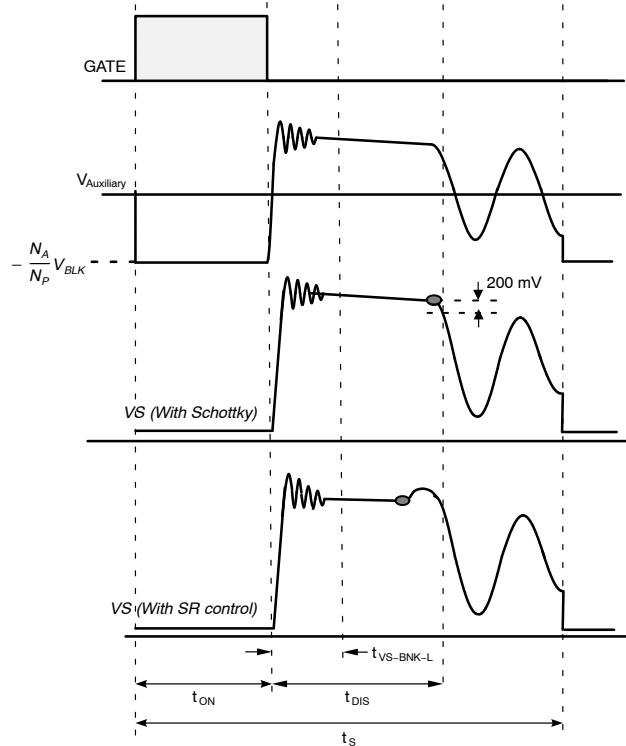

Figure 26. VS sampling with Diode or Synchronous Rectifier
VS voltage which is reflected auxiliary winding and proportional to output voltage. Therefore, It is possible to regulate output voltage by sensing VS voltage. Figure 26 shown VS sampling waveform with secondary rectifier that using Schottky diode or Synchronous Rectifier (SR).
In order to regulate output voltage in accurately range, FAN105A build-in VS sampling methodology for signal like Figure 26 showed, FAN105A samples and hold VS voltage as EAV at timing like gray point showed. Base on EAV level to regulate Pulse width to achieve estimation output voltage.
A leading edge blanking time (tVS-BNK-H/L) start from primary switch turned off, that is caused by the resonance of leakage inductance and parasitic capacitance at transformer. In order to avoid VS sampling procedure get impacted by that ringing, the oscillation should be settle before settle down before tVS-BNK-L ended as Figure 26 showed. tDIS is secondary rectifier current discharging time which recommend better design is longer than tVS-BNK-H during minimum on time controlling. tDIS is predictable by following formula: